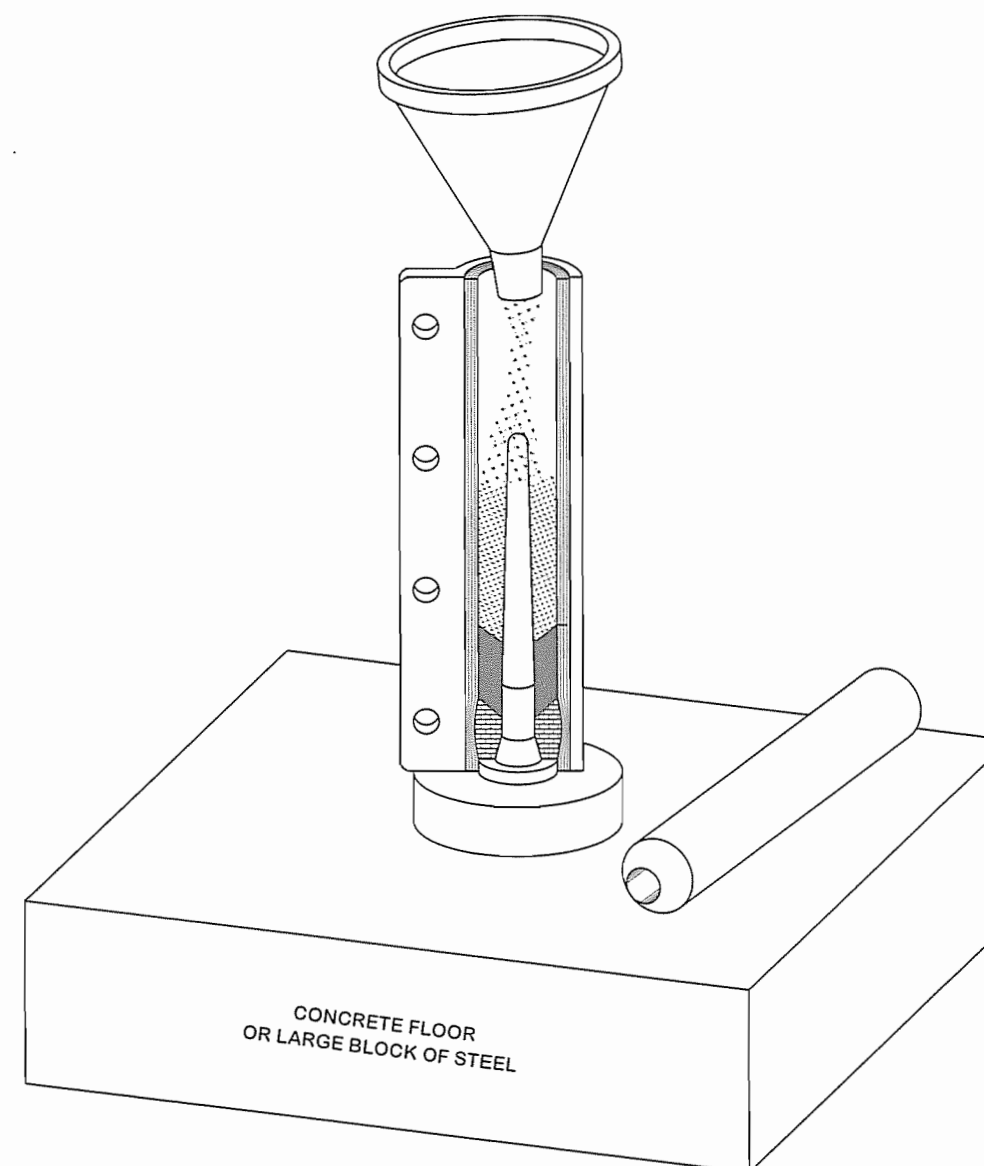
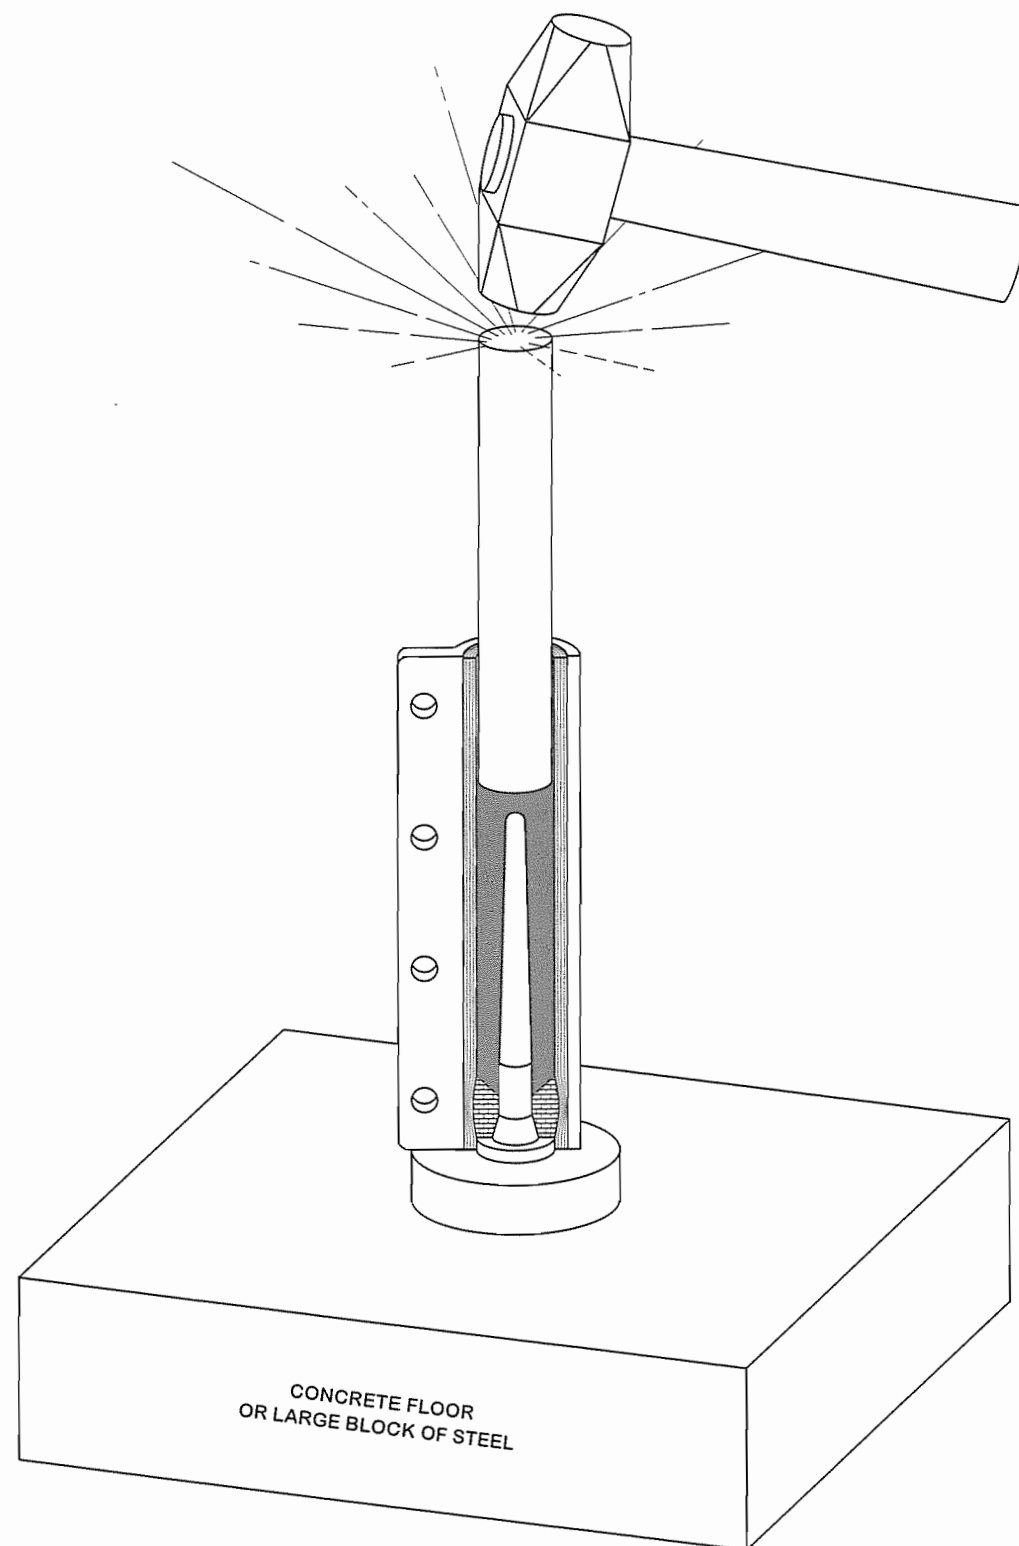

Figure 10-8. A second dose of propellant is added on top of the first.
Figure 10-13. The fourth and final dose of propellant is rammed into place with a flat-ended tamp.
7. Repeat **step 6** until the proper amount of propellant has been loaded (**Figures 10-8 through 10-13**), and use a flat-ended tamp to ram in the final dose (**Figure 10-13**). With the flat-ended tamp, ram in the amount of clay indicated for the forward bulkhead. Then lift the motor off the nozzle mold. Pull out the core spindle. Release the motor from the casing retainer, and lay it on a rack to dry.